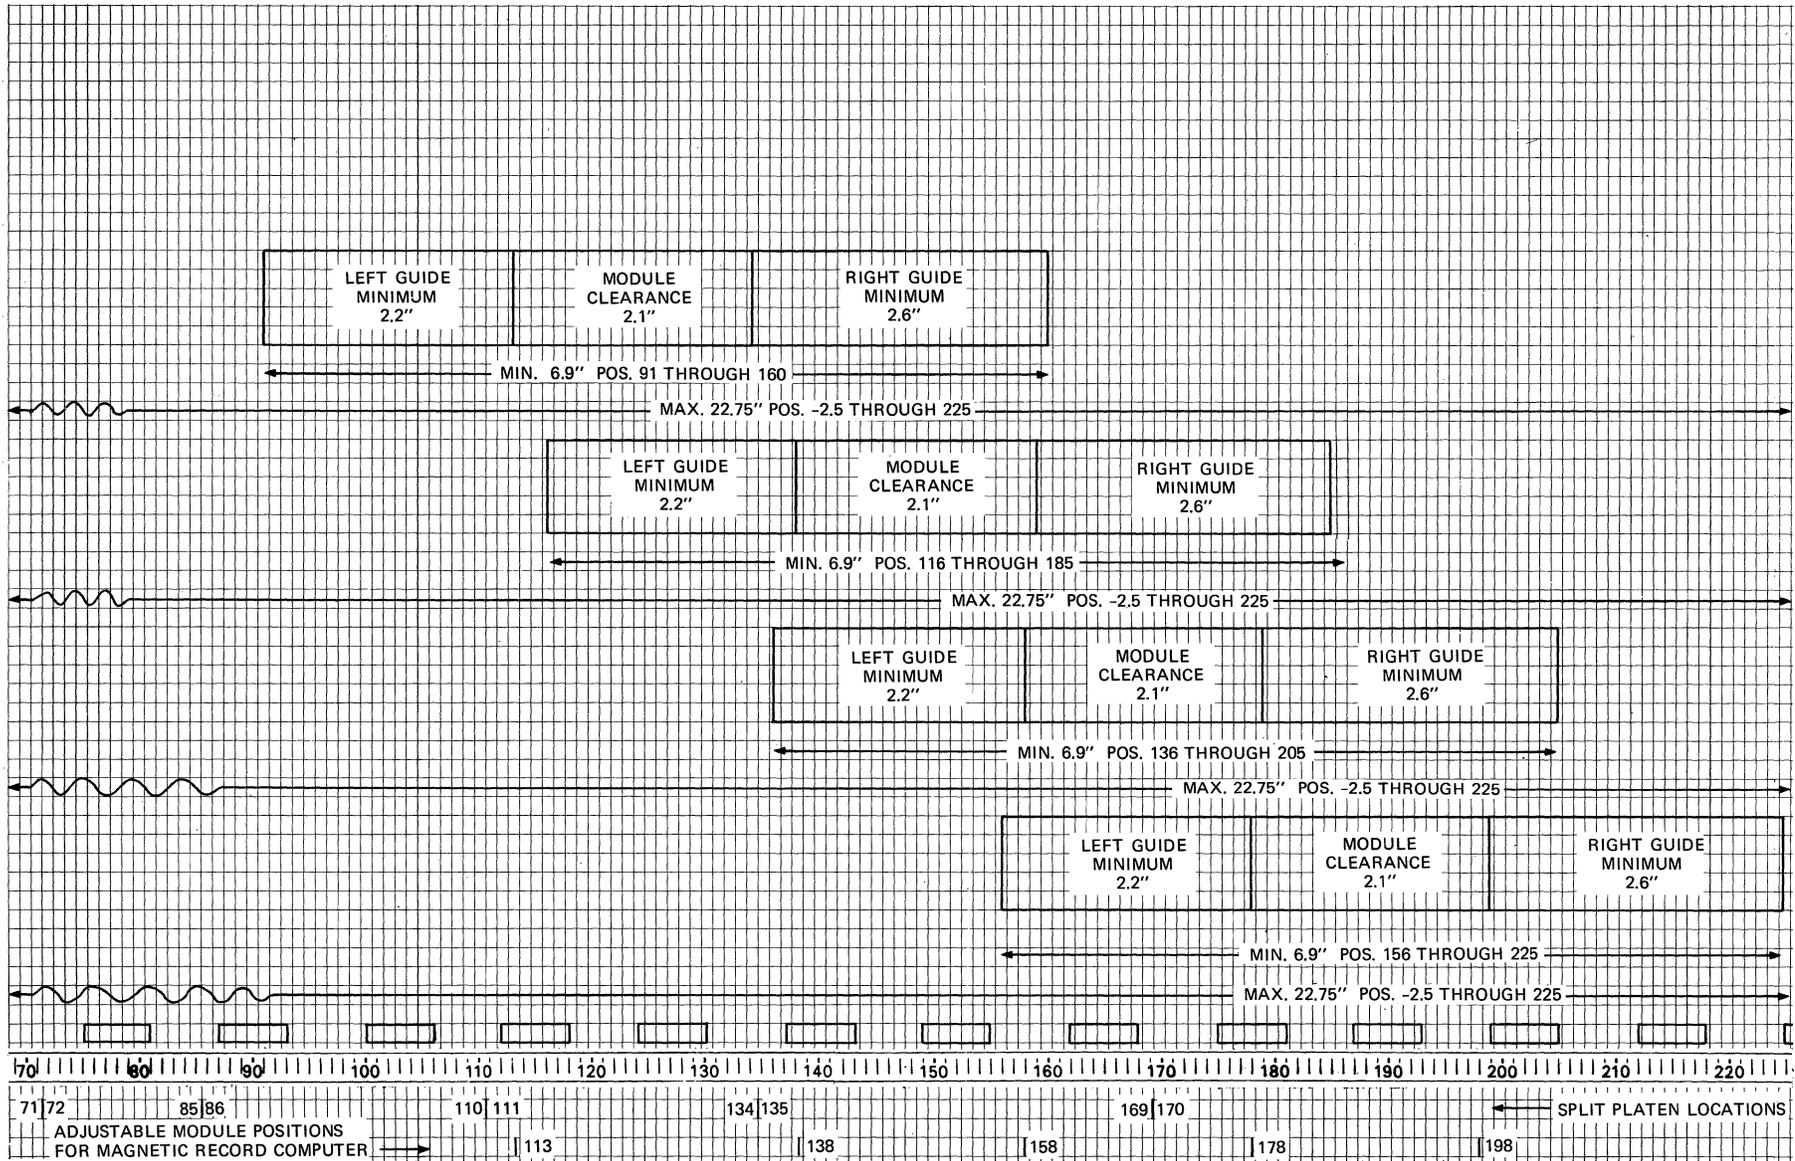

Figure 6.14.02-2 Front Feed Forms Area Utilizing Rear Guides On Opposite Sides of Adjustable Module, MUR Front Feed Form Handler
**Explanation of Figure 6.14.02-2**